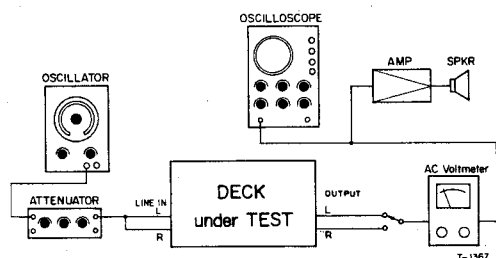

Fig. 6-9 Connection
8. Change the connection of the AC voltmeter to the OUTPUT jacks as shown in Fig. 6-9 and place the MONITOR switch in SOURCE position.
1. Connect the deck and the test equipments as shown in Fig. 6-9 on page 21.
1. Connect the deck and the test equipments as shown in Fig. 6-9.